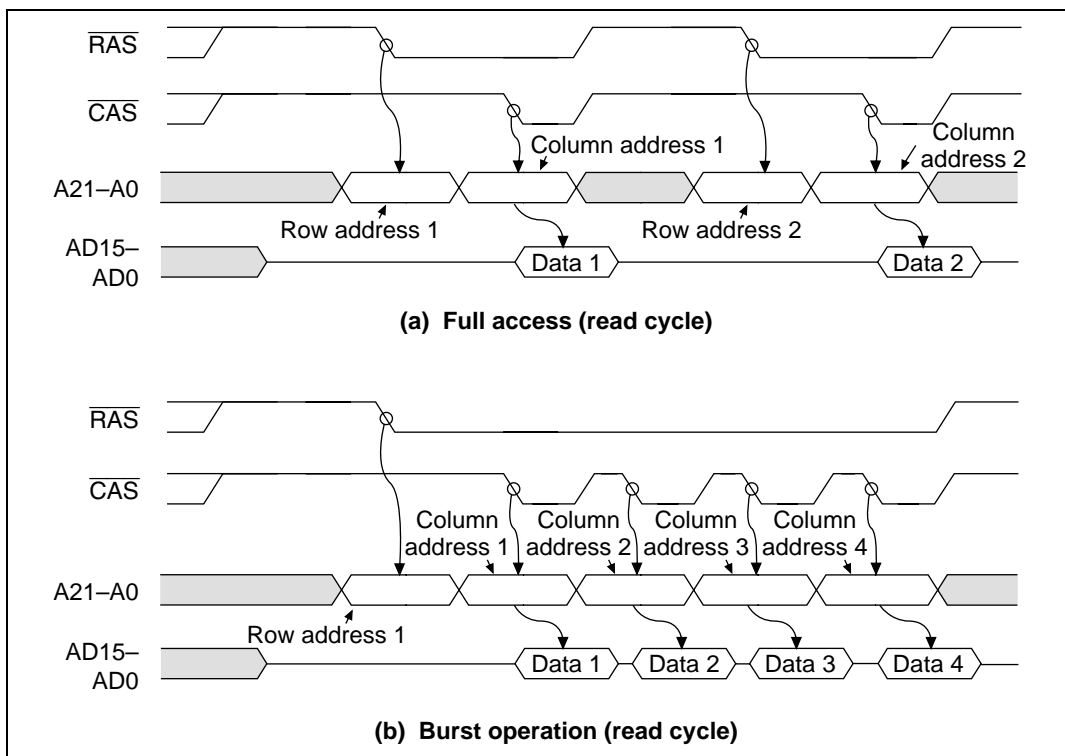

Figure 8.22 Full Access and Burst Operation
In addition to the normal mode of DRAM access, in which row addresses are output at every access and data then accessed (full access), the DRAM also has a high-speed page mode for use when continuously accessing the same row. The high speed page mode enables fast access of data simply by changing the column address after the row address is output (burst mode). Select between full access and burst operation by setting the burst enable bit (BE) in DCR. When the BE bit is set to 1, burst operation is performed when the row address matches the previous DRAM access row address. Figure 8.22 shows a comparison between full access and burst operation.